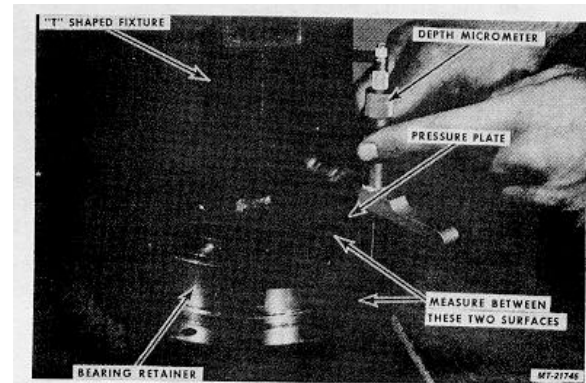

Fig. 54
17. Place "T" shaped fixture SE-2782-5 across the center of Pressure Plate, and bring the ram of the press down to create added weight, Fig. 54.
With this weight slightly compressing the stack of plates to stabilize them, measure the distance between the Pressure Plate and Bearing Retainer surfaces, at two points 180° apart, Fig. 54.